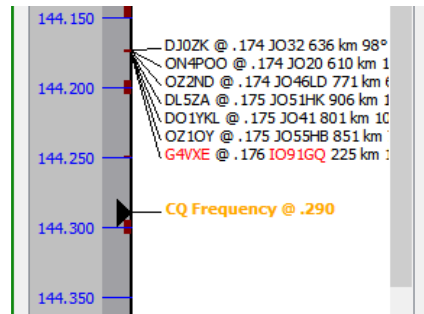

Figure 153 – Run frequency marker
- If operating in Run mode, the current Run frequency is marked on the display¹³⁷ as **‘CQ Frequency’**, with the fractional frequency appended (see Figure 153); the marker changes colour if the rig moves off the run frequency.